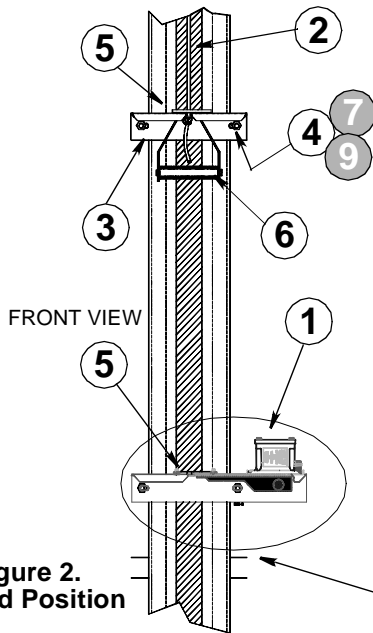

Figure 2.
1. Install the top Handle Bracket ③.
2. The Handle ⑥ should be in the **closed** position (see **Figure 2**).